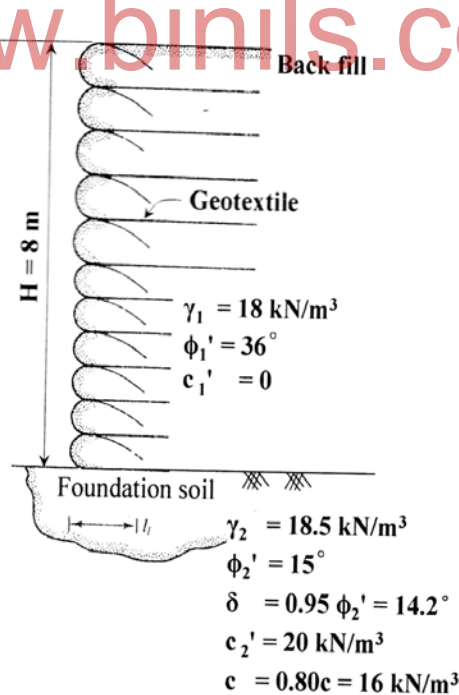

Figure Q. 16 (a)
16. (a) Design a 8 m high wrap-around type of geotextile wall (Figure Q. 16 (a)) that is to carry a storage area of equivalent dead load of 15 kPa. The wall is to be backfilled with a granular soil (SP) having properties of $\gamma = 18 \text{ kN/m}^3$, $\Phi = 36^\circ$, and $c = 0$. A woven slit-film geotextile with warp (machine) direction ultimate wide-width tensile strength of 60 kN/m and friction angle with granular soil of $\delta = 24^\circ$ is intended to be used in its construction. The orientation of the geotextile is perpendicular to the wall face and the edges are to be overlapped or sewn to handle the weft (cross machine) direction. A factor of safety of 1.4 is to be used along with site-specific reduction factors. (Check the internal and external stability of the retaining wall). (15)